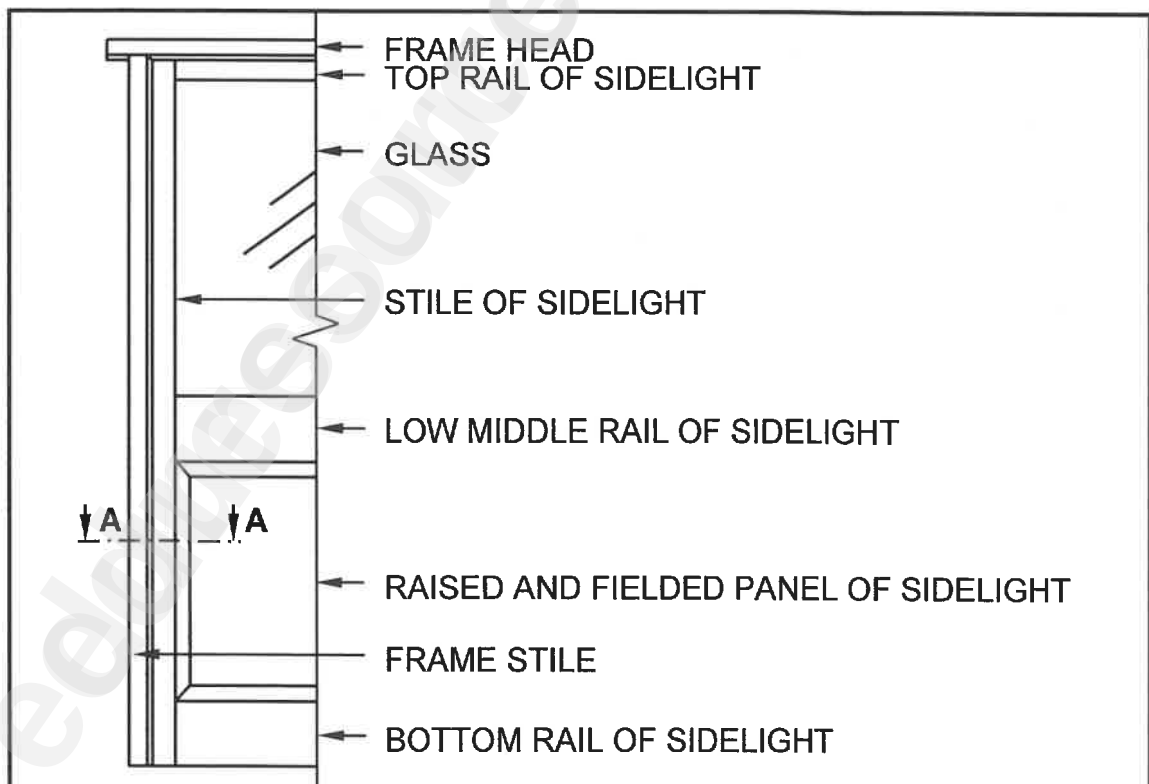

FIGURE 6.6
- 6.6 FIGURE 6.6 below shows a part of the front elevation of an entrance door with a fixed sidelight fitted in a door frame. (8)